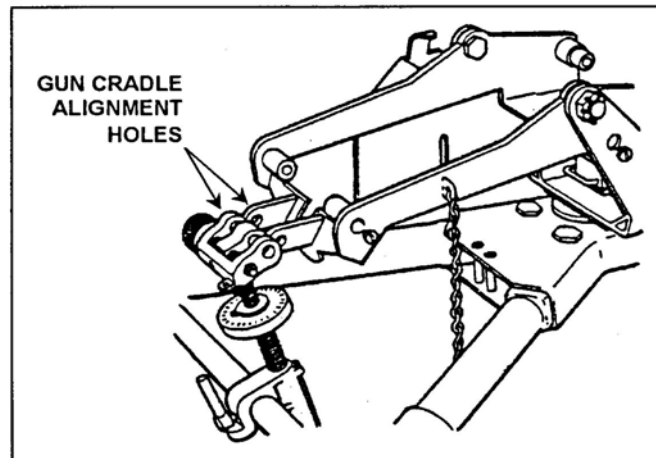

Figure 5. Inserting Quick Release Pin
- e. Remove the quick release pin from the T&E mechanism. Align the holes in the T&E mechanism with the rear holes of the gun mount. Insert the quick release pin from the right side, and rotate the pin downward to the locked position (Figures 5 and 6).